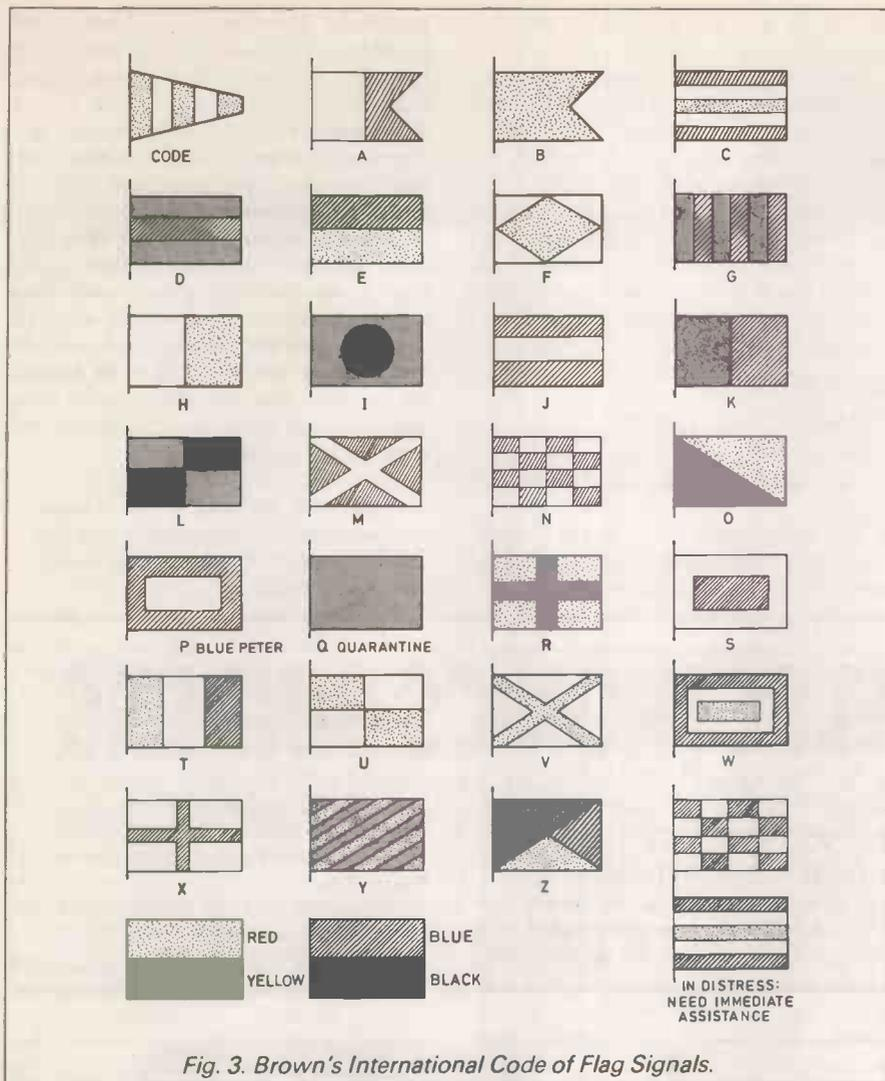

Fig. 3. Brown's International Code of Flag Signals.
Brown's International Code of Flag Signals (see Fig. 3) used on ships is interesting. Here, flags are hoisted for the distant ship to observe by means of a telescope. The flags may be used in two ways. The pattern and colour of each flag represents a particular letter of the alphabet and the words may be spelled out. Alternatively, the same flags have meanings in their own right so for day-to-day messages a few flags can communicate quite complicated ideas even between people speaking different languages.
3. The International Code of Flag Signals: Use the International Signal Code (Fig. 3) to draw and colour some flags which are then used to send a message. This is a good and relatively quiet indoor activity. Someone is certain to be amused by the Blue Peter (which is hoisted on a ship about to leave port). Find out the meaning of "flagship".